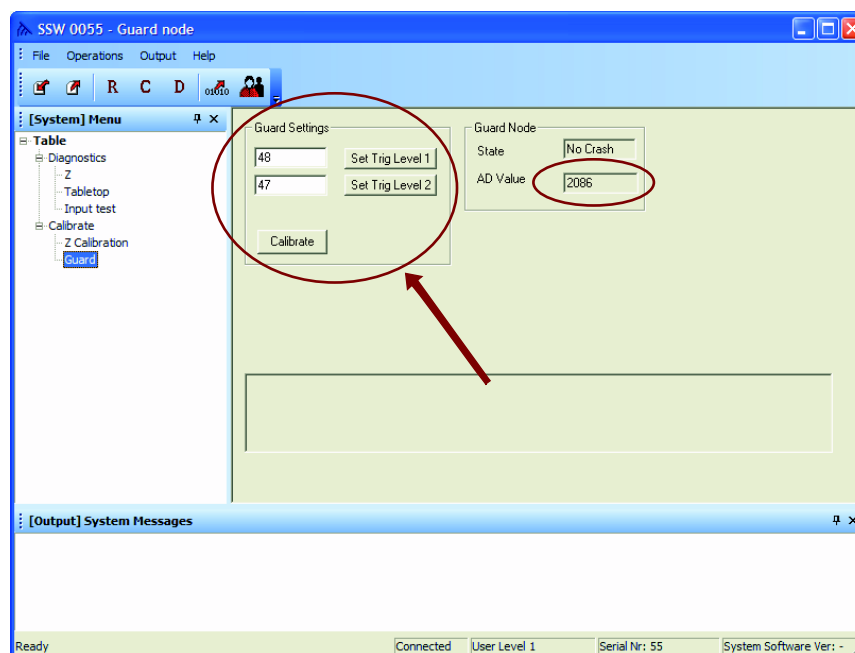

Fig. 4-165 Guard Setting
3. Check the value displayed in the *AD value Edit* box. The value shall be 2500 +/-500, see **Fig. 4-165**.
5. If necessary adjust the trig levels by entering a new value Guard settings Edit boxes and pressing the coherent button (Set Trig level 1 and/or Set Trig level 2) see **Fig. 4-165**. 2-3 points are approximately 10N.